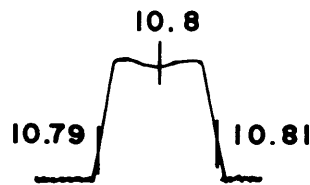

Figure 2
4. Adjust T1 and T2 for maximum output, and minimum ripple. See Figure 2.